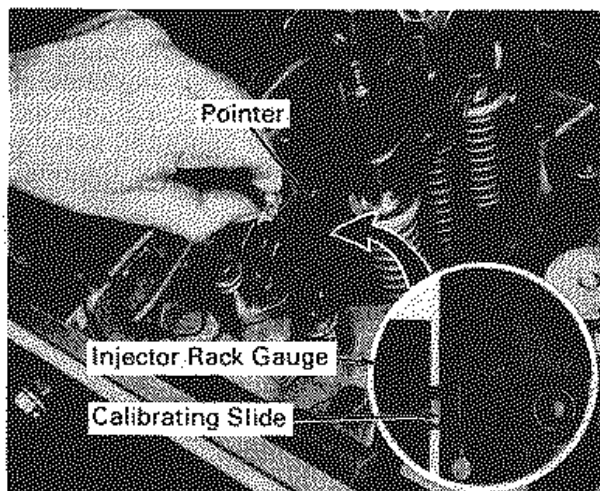

Fig. 11-12 - Injector Rack Gauge Application
4. Place the gauge over the injector rack and hold the gauge firmly against the face of the calibrating slide on the injector, Fig. 11-12, and check the gauge pointer. If the pointer is at the short ("S") end of gauge scale, outside of the setting range, the rack is not extending out far enough from the injector. Loosen the locknut on the adjusting link, Fig. 11-9, and turn adjusting nut on link until pointer is at the long ("L") end of the scale; then reverse pointer travel until it is within the scale setting range. Hold the adjusting nut and tighten locknut. The reason for exceeding the setting range when making adjustment is so that, in setting all of the racks, the backlash will be taken up in the same direction.